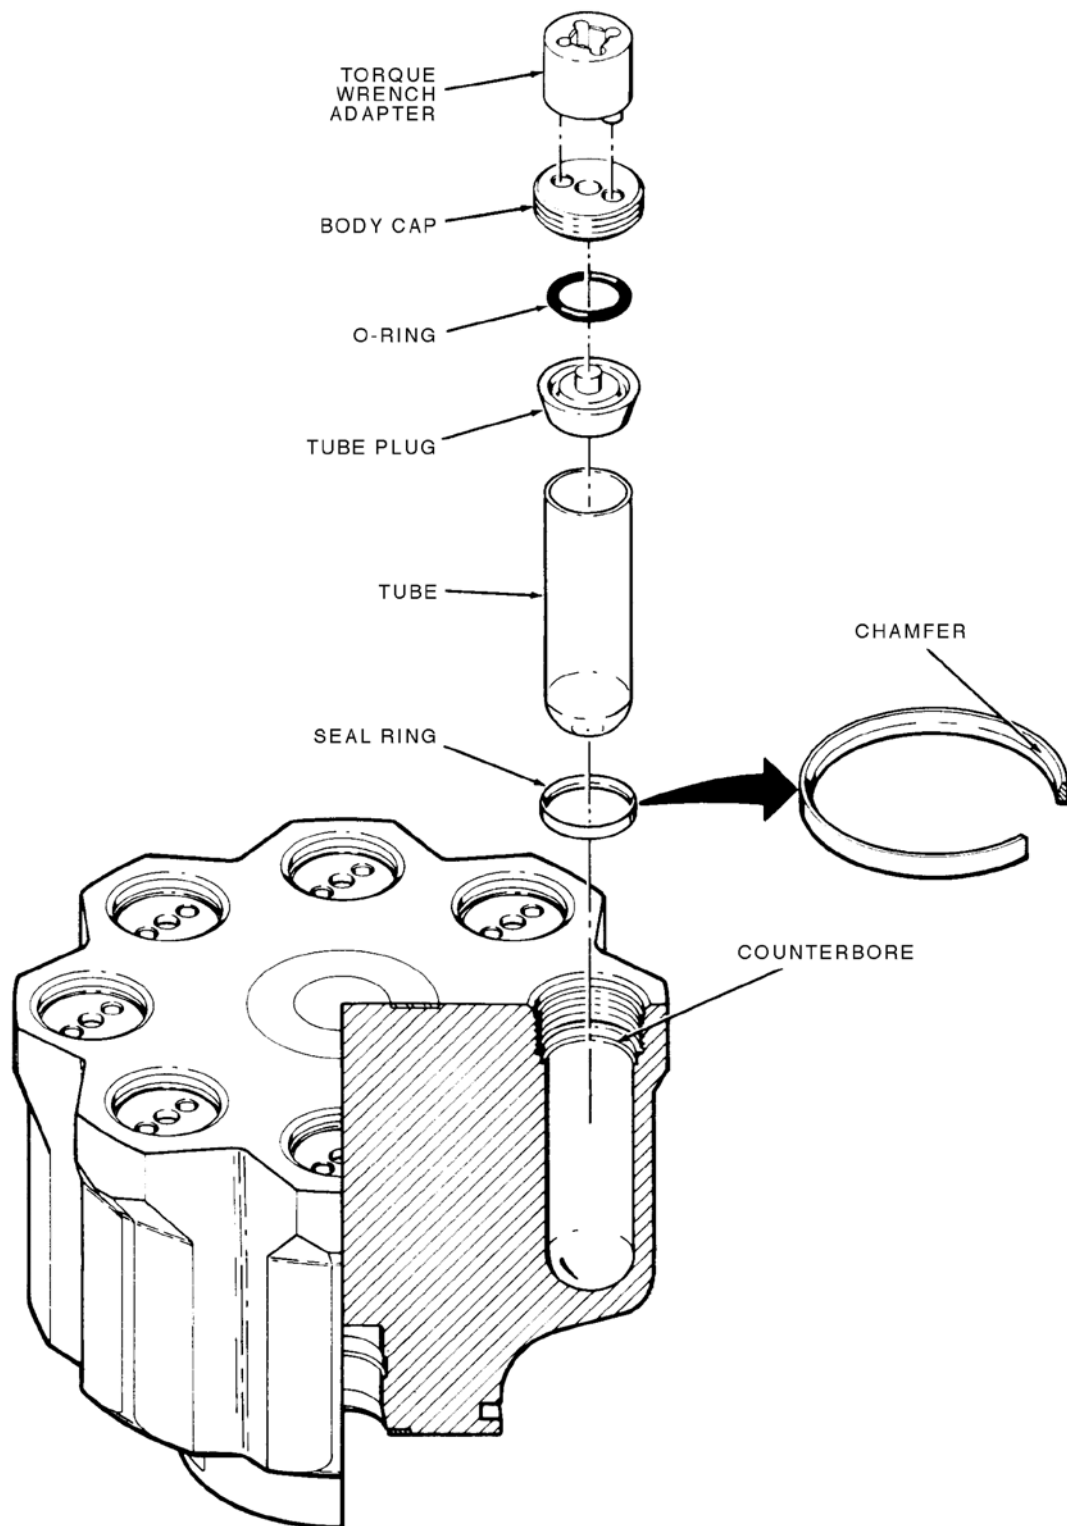

Figure 4-1. Optional Rotor Sealing Assembly
b. Using Optional Tubes and Sealing Assembly (refer to figure 4-1)
2. Install a seal ring (Cat. No. 52596), chamfer side up, into the counterbore of each rotor compartment that will contain a tube (see figure 4-1).